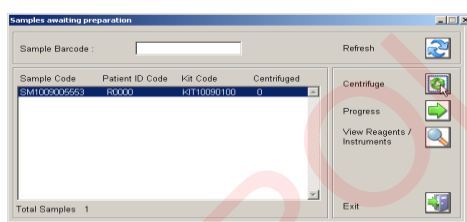
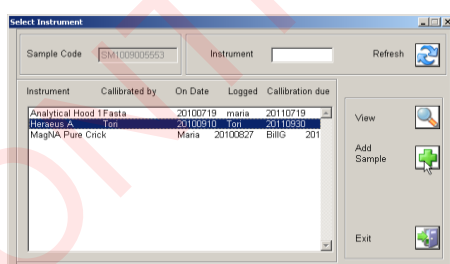

Figure 2 – 'Samples awaiting preparation' screen
Figure 3 – 'Select Instruments' screen
2. Select the **'Centrifuge'** icon  from the Serum Workflow, the **'Samples awaiting preparation'** screen will appear, (Figure 2) select **'Centrifuge'** . The **'Select Instrument'** screen will appear (Figure 3), select the centrifuge to be used and click on the **'Add Sample'** icon.